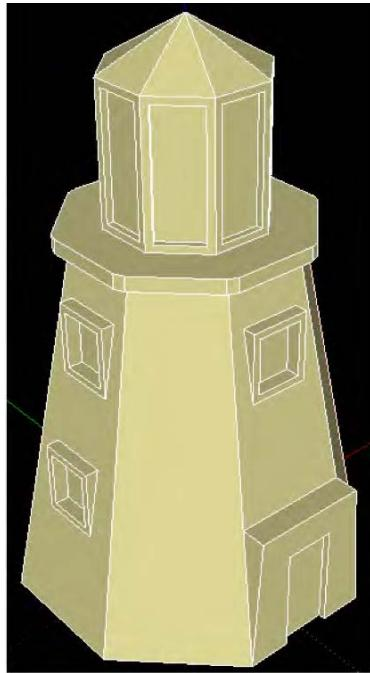

Figure 5–19. Lighthouse model to preview style
During 3D printing, this will appear as an error, and Shapeways will not upload your model. Right-click, and select Reverse Faces from the drop-down list to reverse all the red faces. You should now have a model like Figure 5–19.
2. Now select Resurface, and the CADspan Resurfacer dialog box will appear (Figure 5–20a).